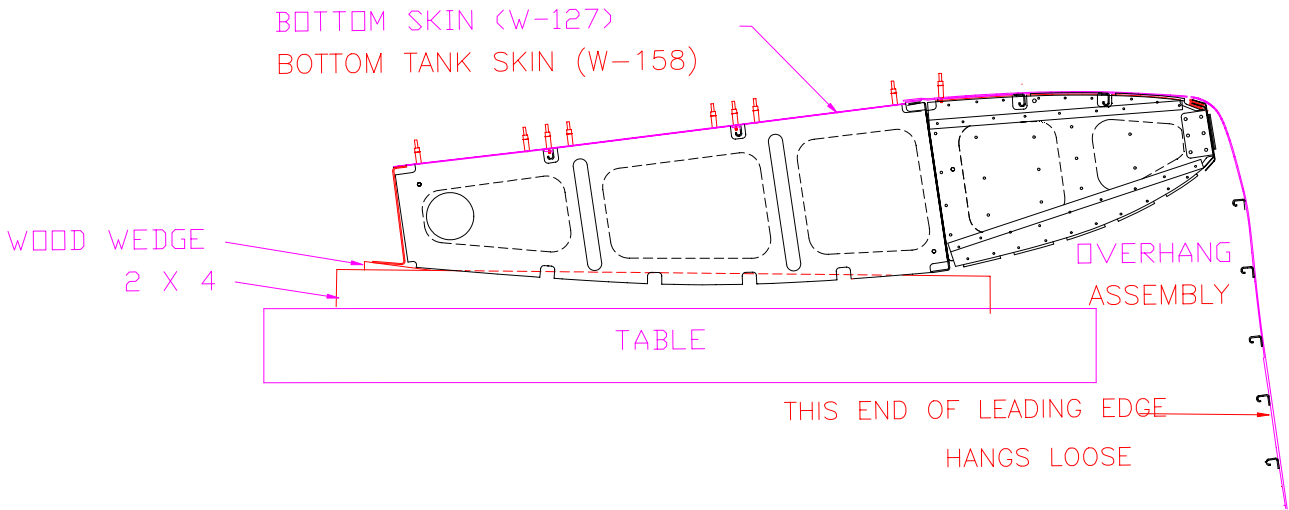

Figure 8.16.4
- 6) Cleco the Leading Edge Skin (W-600) to the Leading Edge Ribs. Figure 8.16.4.